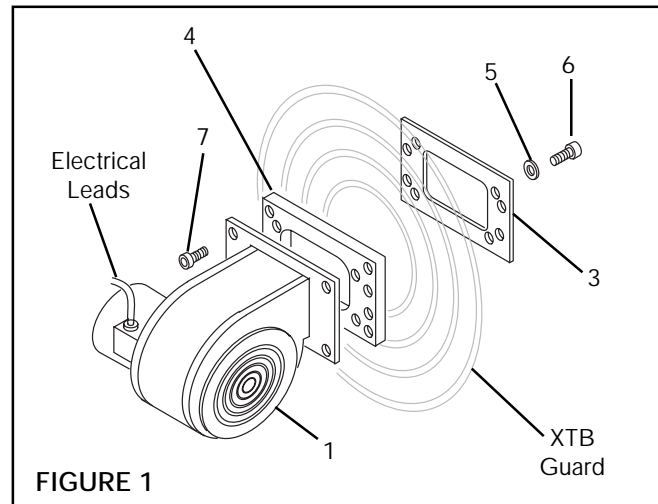

FIGURE 1
- Using 10-24 x75 Locking Screws (Item 7) secure Blower (Item 1) to the Blower Adaptor (Item 4) (See Fig. 1).
- Remove Guard from XTB Brake (See Fig. 1).
- Align Blower and Blower Adaptor with the opening in front of the XTB Guard (See Fig. 1).
- Using 10-24 x 38 Socket Head Cap Screws (Item 6), Washers (Item 5), and Mounting Plate (Item 3) secure Blower and Blower Adaptor to the “XTB” Guard (See Fig. 1).